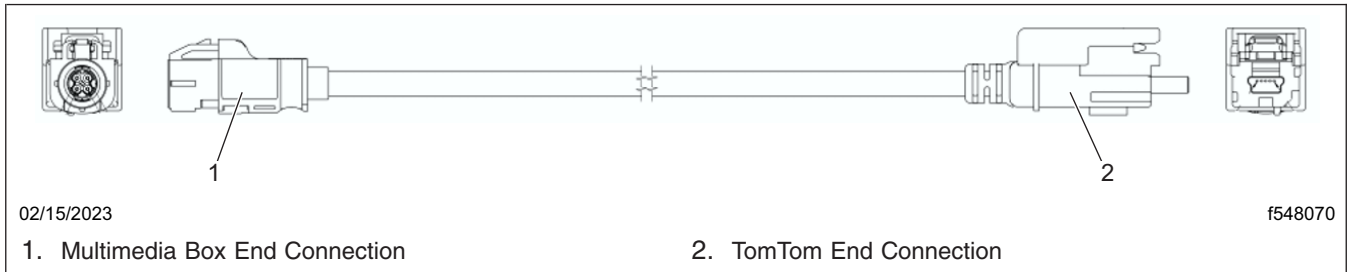

Fig. 14, USB Cable End Connections
9. Route the USB cable from the TomTom module location to the multimedia box (MMB). See **Fig. 12** and **Fig. 13**. Ensure the cable ends are routed correctly, as shown in **Fig. 14**.